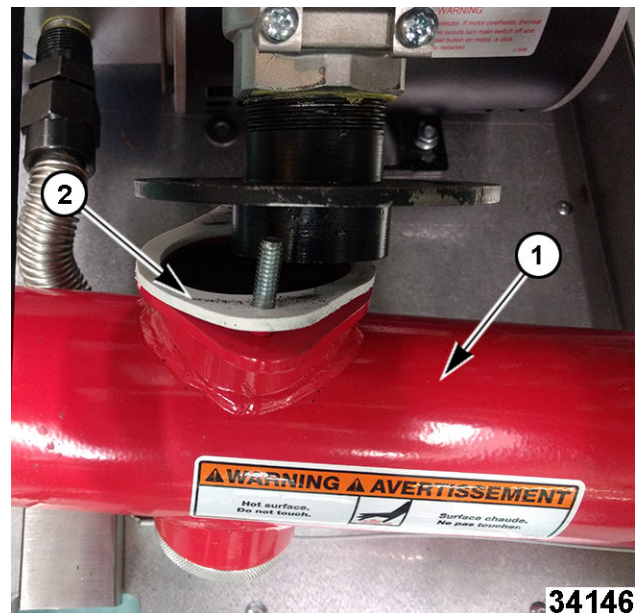

Fig. 82
4. Remove drain manifold (1, Fig. 82) and flange gasket (2, Fig. 82) if fryer has a filter system.